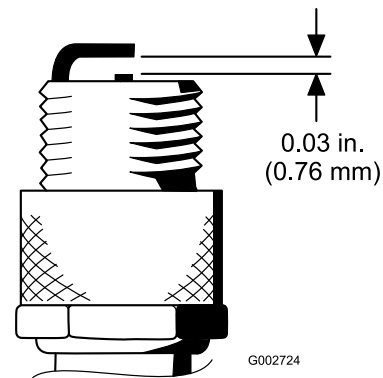

Figure 44
4. Set the air gap between the center and side of the electrodes at 0.76 mm (0.030 inch) (Figure 44).